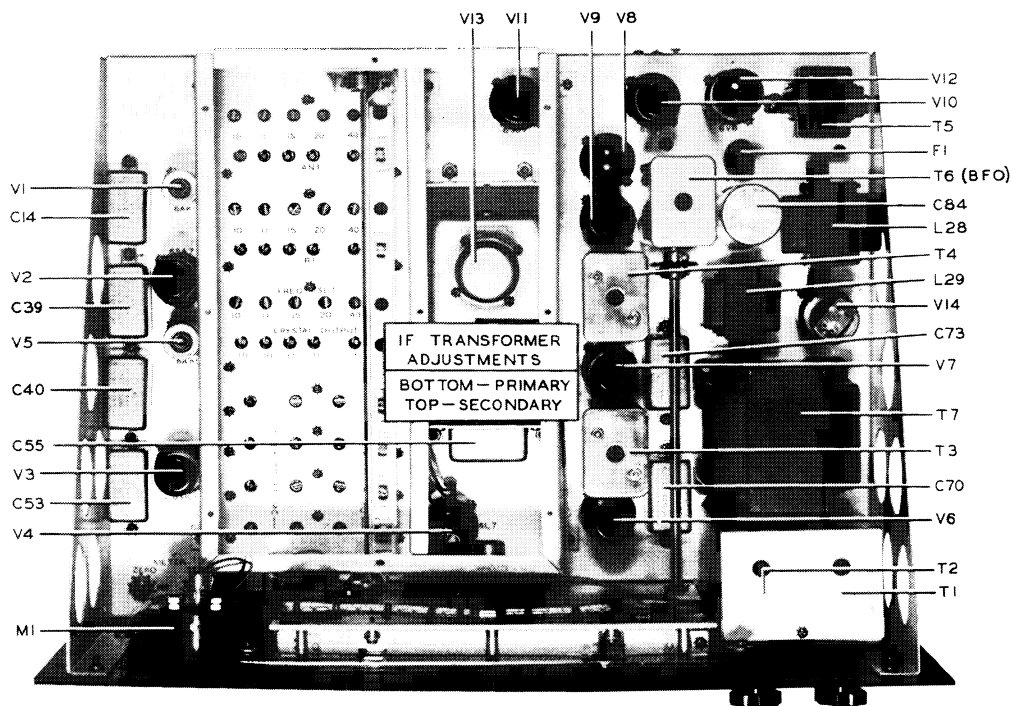

FIGURE 5-2 75A RECEIVER-TOP OPEN
- c. Refer to figure 5-2, Tune first the secondary and then the primary of the i-f transformers T4 and T3 and then the primary of T1 (See paragraph 5-18 for alignment of T2) tuning for maximum output on the S meter but attenuating the signal generator output to stay below a meter reading of S9.